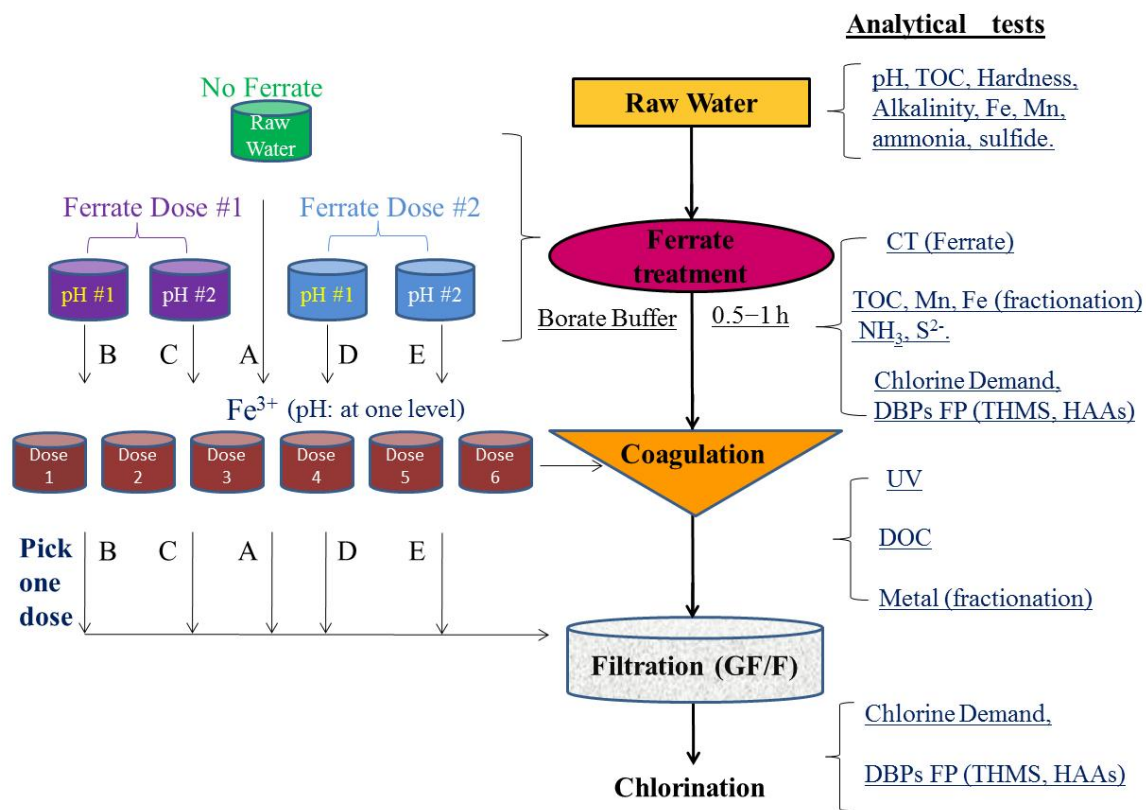

Figure 1. General Experimental Design for Laboratory Studies of Ferrate and Raw Waters
**Materials and Methods:** A set of 17 drinking water systems was selected with the intent of capturing a range of water quality types, treatment objectives and treatment technologies. Raw water is collected from each and treated in the laboratory for the purpose of assessing oxidant exposure (i.e., CT), carbon oxidation, organic and inorganic contaminant oxidation, DBP precursor oxidation, and impacts on subsequent removal by coagulation. All of these are determined as a function of ferrate dose and pH (Figure 1).